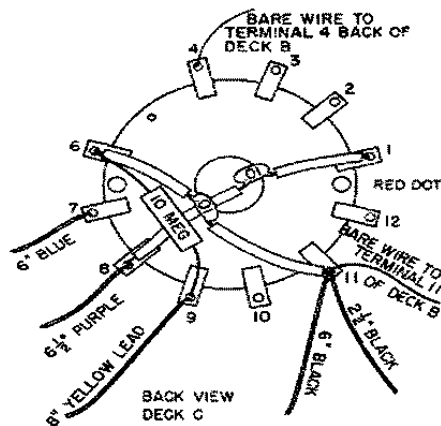

Figure 19 - Wiring on back of deck C.
Next, you will wire two capacitors and a resistor on the back of deck C. Refer to Fig. 19 for the placement of these parts. You will need the following parts:
- ( ) Connect one end of a 0.01- $\mu$ F disc capacitor to terminal 1 on the back of deck C. Connect the other end of this capacitor to terminal 8 on the back of deck C. Position the capacitor as shown in Fig. 19. Solder terminal 1 on the back of deck C.
- ( ) Connect one end of a 10-megohm, 1% resistor to terminal 6 on the back of deck C. Connect the other end to terminal 9 on the back of deck C. Position the resistor as shown in Fig. 19.
- ( ) Connect one end of the other 0.01- $\mu$ F disc capacitor to terminal 6, back of deck C. Connect the other end of the capacitor to terminal 11, back of deck C. Position the capacitor as shown in Fig. 19. Solder terminal 6, back of deck C.